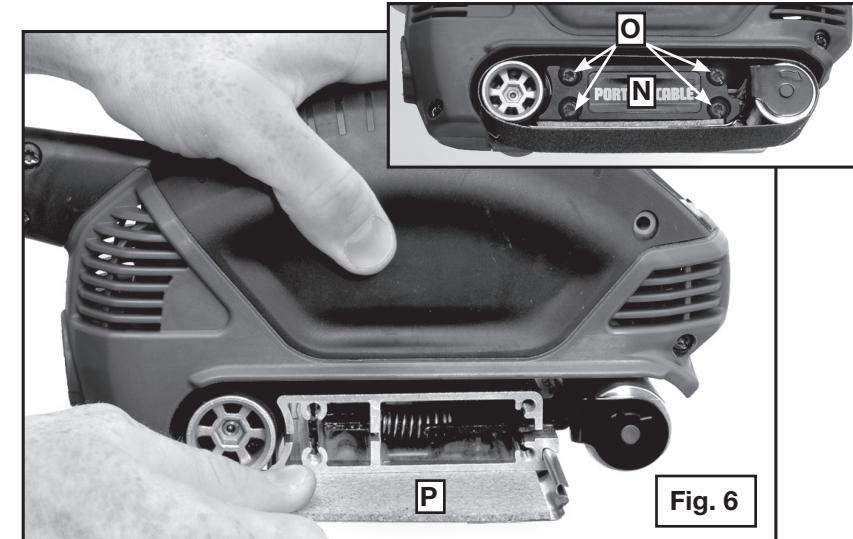

Fig. 6
3. Remove the plastic cover (N) Fig. 6 (inset) from right side of platen by removing four screws (O).
4. Slide old platen/cork (P) Fig. 6 out.